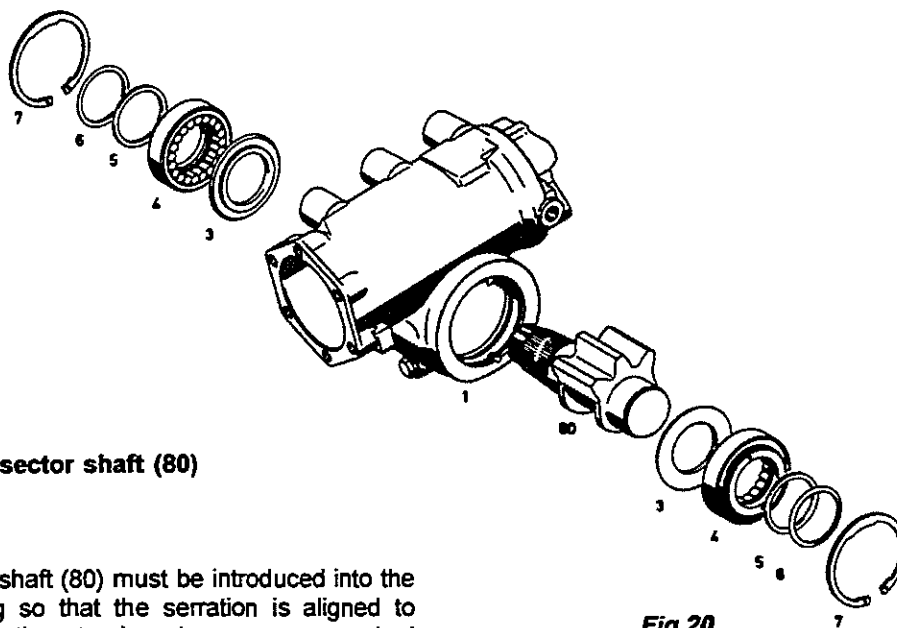

Fig.20
Fit gasket (5) and support ring (6) in housing cover (4) (**Fig.20**).